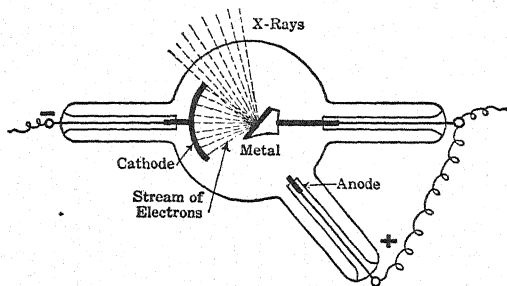

FIG. 217. — X-ray tube.
**373. How Atomic Numbers Are Determined.** In Section 135 we learned that Moseley was able to determine the atomic numbers of the elements. The X-rays are ether waves that have a high frequency and a short wave length. Moseley discovered that the length of these X-ray waves depends upon the kind of metal that is used as a target, or anti-cathode. He therefore used various metals from aluminum to gold as targets for the cathode rays, and found that the X-ray waves become shorter as the number of excess protons in the nucleus of the element increases. Hence the atomic number increases as the length of the waves of the X-rays, when affected by the properties of the element used as a target, decreases. (See Fig. 217.) Moseley found that be-